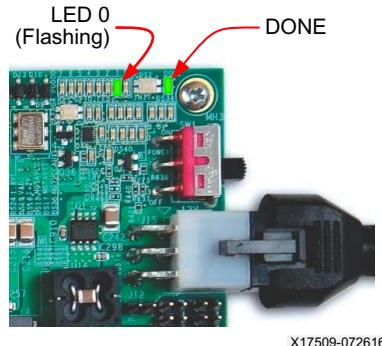

Figure 13: The Reference Design Initial Bitstream `golden.bin` is Running
3. Verify the FPGA is successfully configured with the reference design initial bitstream (`golden.bin`) by observing the DONE LED is lit and the LED 0 is flashing (Figure 13).